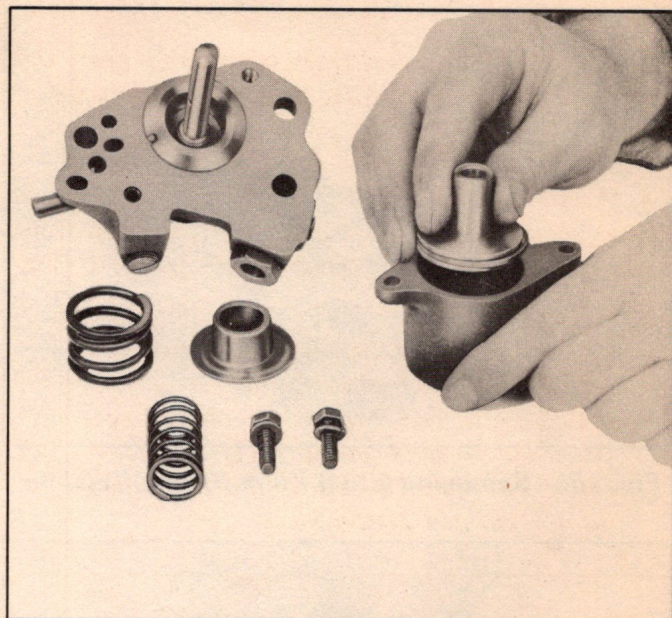

Fig. 164—Removing Front Band Release Piston
5. Remove front band release piston from cylinder (Fig. 164).